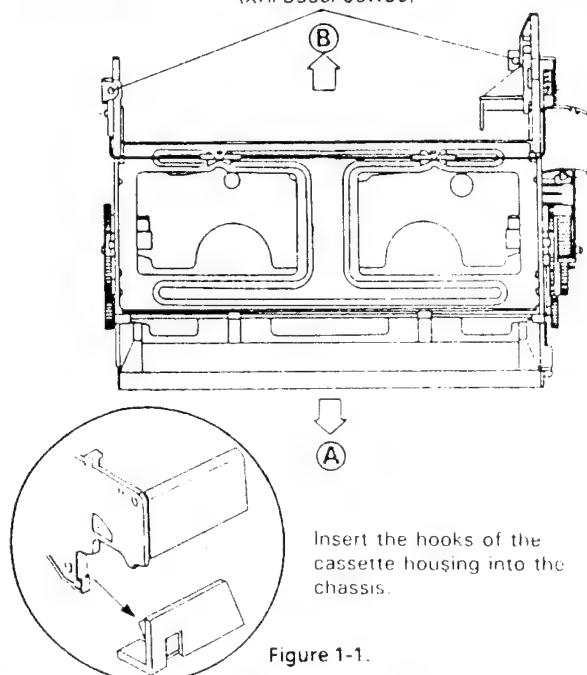

Figure 1-1.
4. Move the cassette housing control assembly (Fig. 1-1) in the direction of arrow ⇒ ⑧, and pull it out straight upward.